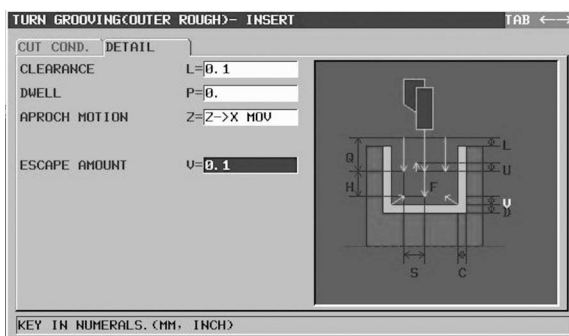

Figure 7-31 GROOVING DETAIL
35. When complete, press the arrow key to display the DETAIL tab. Input the settings given in Figure 7-31 and press the INSERT soft key when done.